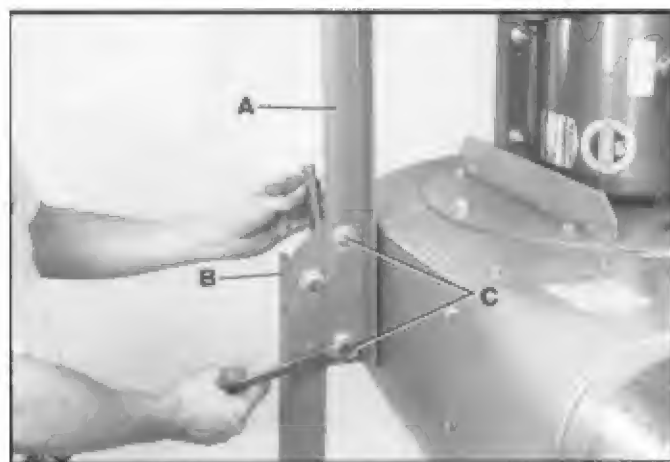

Fig. 19
1. Assemble the four-foot long angle section (with four holes) (A) Fig. 19, upright to mounting lug (B) of fan housing next to outlet with two 1-1/4 inch-long screws (C), four flat washers, two lockwashers and hex nuts as shown. Make certain the angle section (A) is vertical, then securely tighten screws (C).